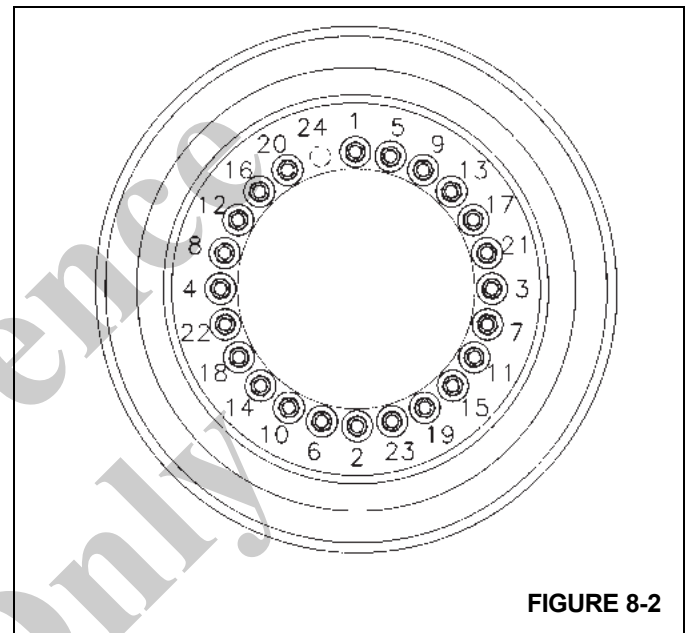

FIGURE 8-2
2. Position the wheel assembly on the mounting studs. Install the lug nuts and tighten them to 50 lb-ft (68 Nm) in the sequence shown in Figure 8-2.
4. Continue to torque the lug nuts 340 to 360 lb-ft (461 to 488 Nm) in the sequence shown in Figure 8-2.